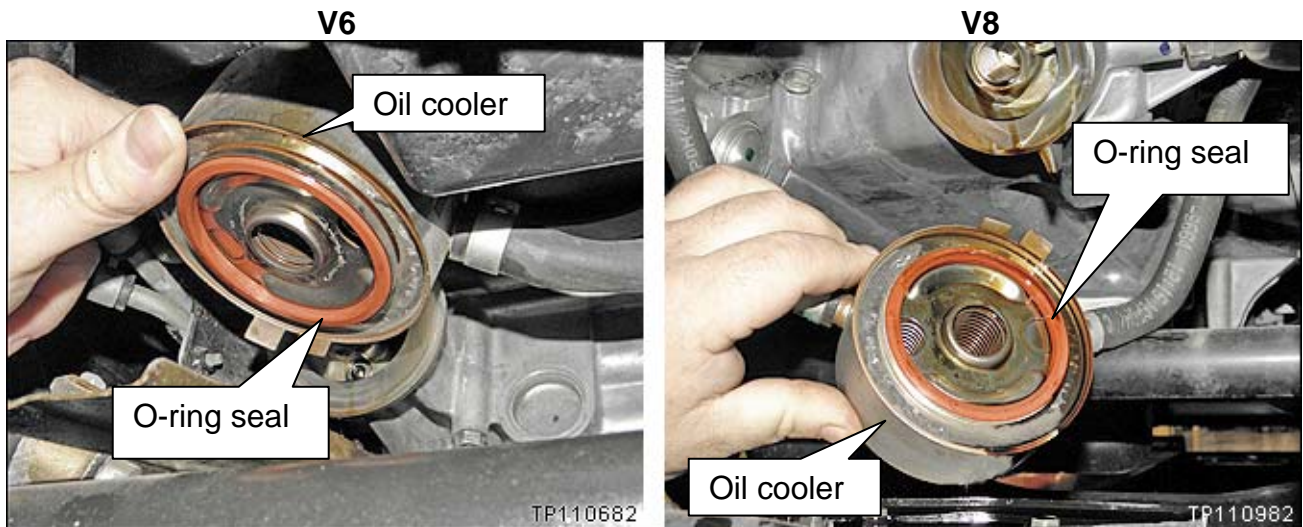

Figure 7
6. Turn the oil cooler $\frac{1}{4}$ to $\frac{1}{2}$ turn to access the O-ring seal on the back side (see Figure 7).